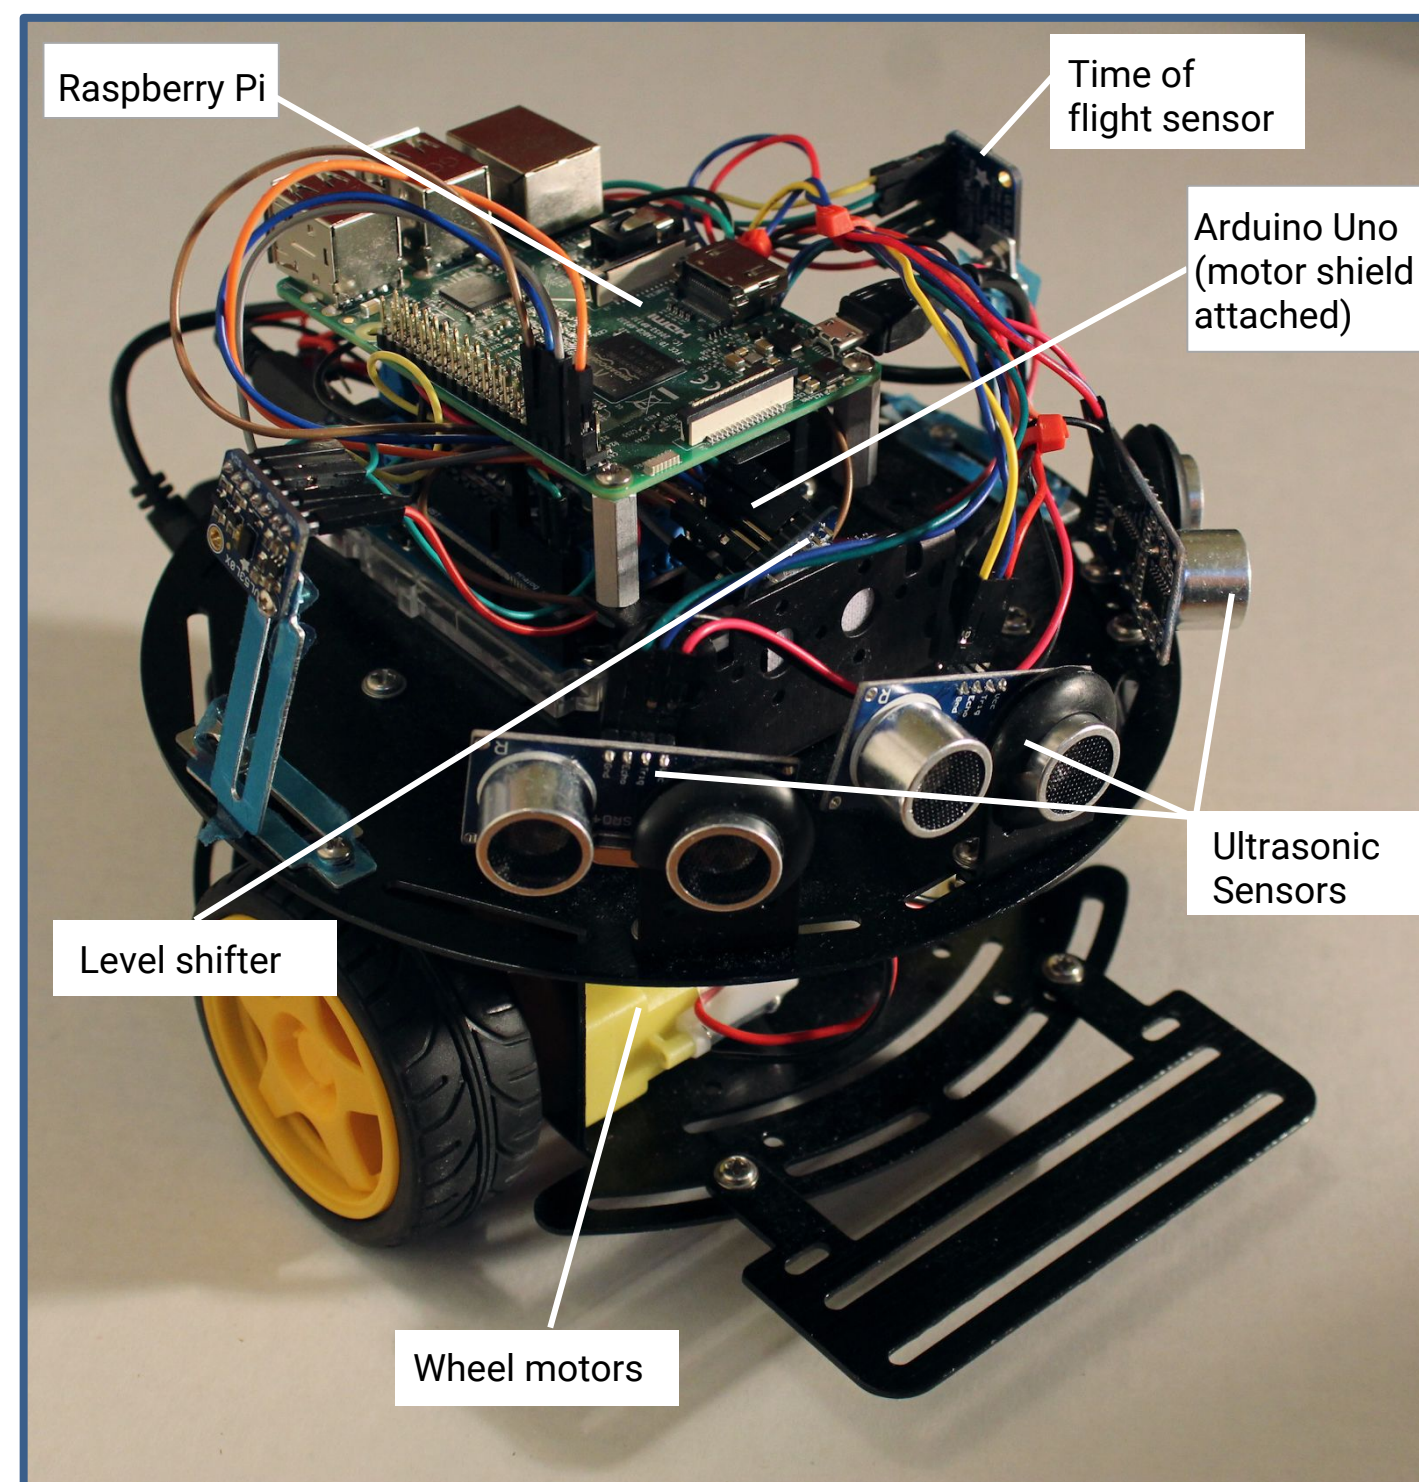

Fig. 2: The car as seen from the front
- The data from the time of flight sensors (visible in Figure 2) was less reliable than the other sensors, and so was not used in the final implementation